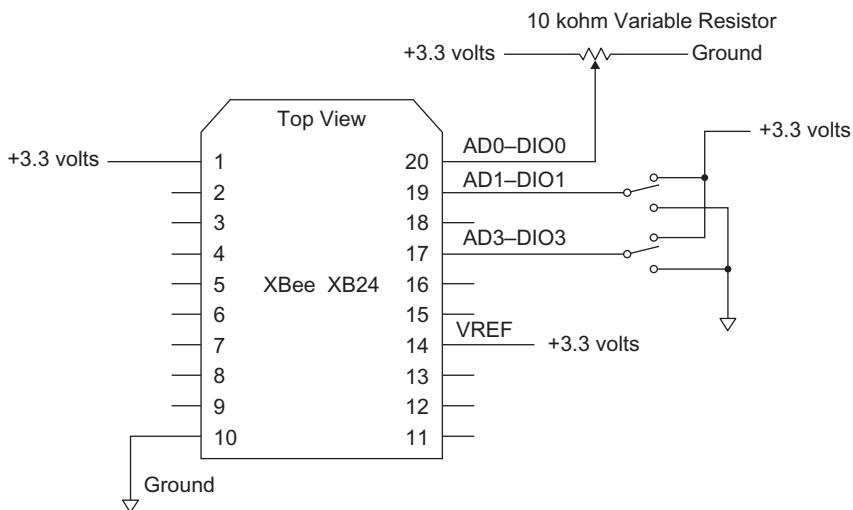

FIGURE 7.1 The connections in this circuit let you change digital inputs from logic-0 to logic-1 states, or vice versa, and immediately transmit digital data.
Step 1. In this experiment the XMTR XBee module will have two digital inputs and one analog input. Before you change any connections, turn off power to the breadboard circuits. The circuit diagram in Figure 7.1 shows the needed connections.